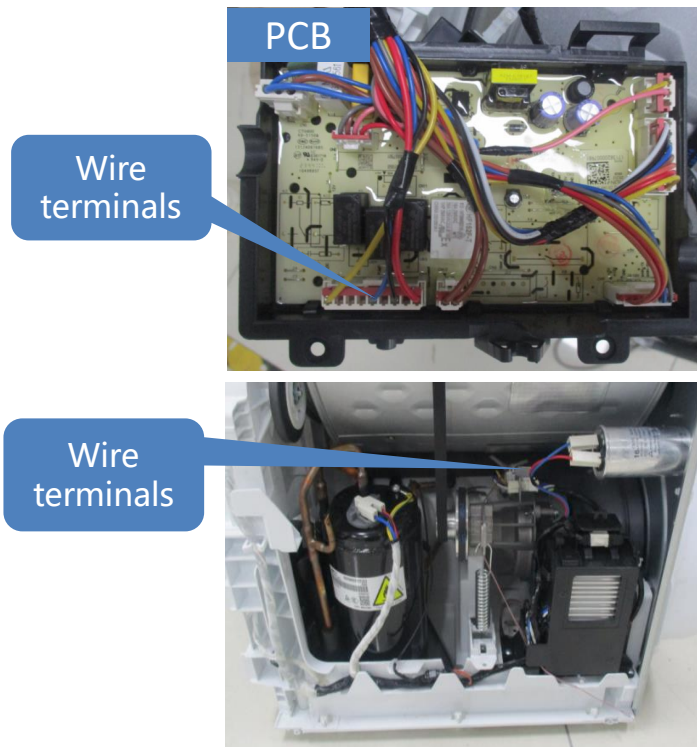

Fig.9
- ⑤ Unplug and reinsert the wiring terminals between the motor and the PCB, and test if the motor is running properly. (Fig.9)